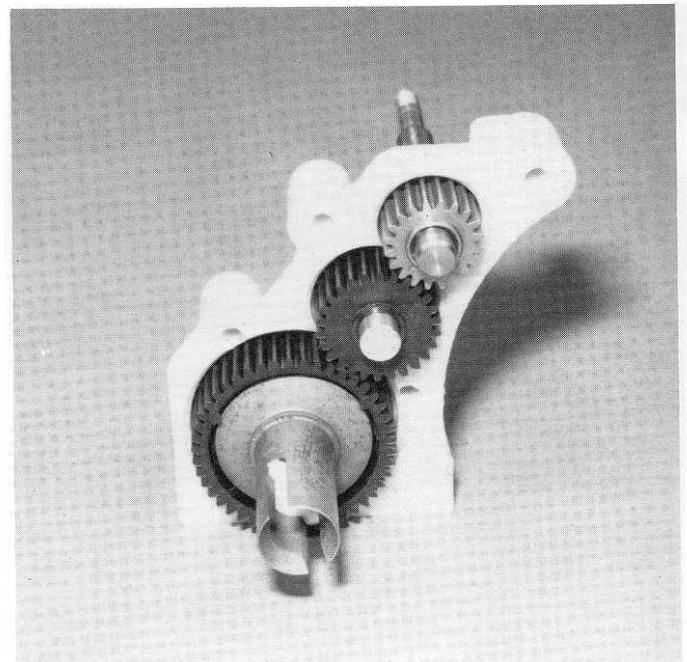

Fig. 64
□ **Fig. 64** The inside of your tranny should look like this. Slip the left hand side of your tranny onto the right hand side.